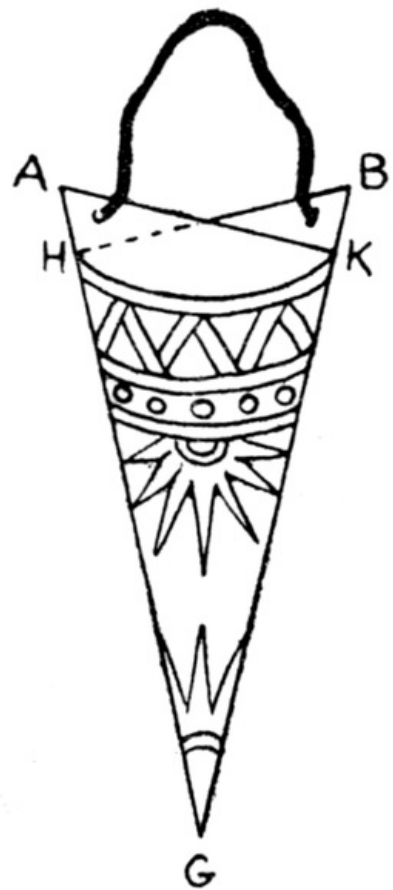

FIG. 64
**A Quiver.** Fold square into sixteen parts (Fig. 63). Join A to C, C to D, D to B by curved line; cut along it. Join E with G and bend along it; G with F and bend along it. Gum B H G to A K G. Fasten a piece of string as in the drawing (Fig. 64).